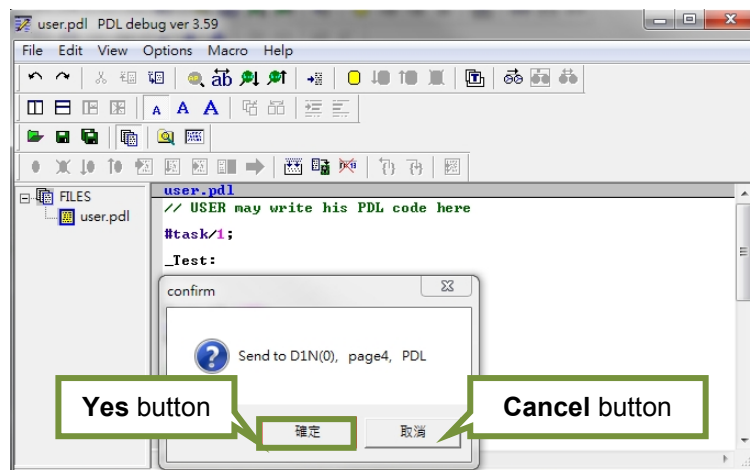
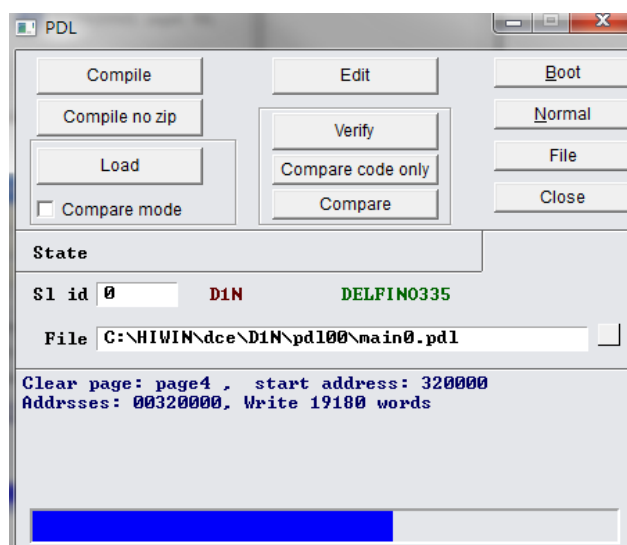

Figure13.2.5
Figure13.2.6
Step 4: Click on  (Send to slave) after compilation finishes. Click on **Yes** button when the dialog shown in figure 13.2.5 appears. Then a window with progress bar appears and closes as PDL program is loaded, as figure 13.2.6.